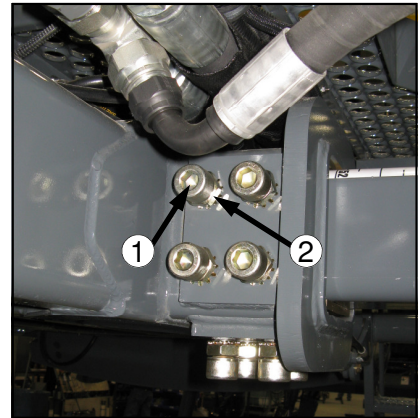

FIG 6.19-1
**HYDRAULIC TREAD ADJUST UNITS**– With the engine turned off, visually inspect the tread bearing bolts on both the bottom and side tread adjust bearing plates (fig. 6.19-1) every 50 hours. Torque check them every 100 hours.
1. Loosen the jam nut (fig. 6.19-1, item 2) on each tread adjust bearing bolt.